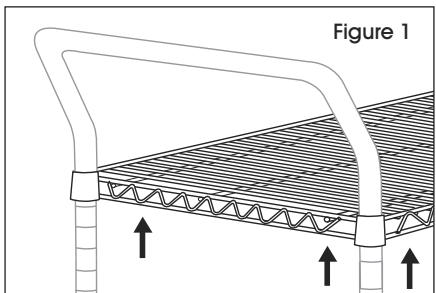

Figure 1
- Slide top shelf up the posts one end at a time, handles facing out. (See Figure 1)